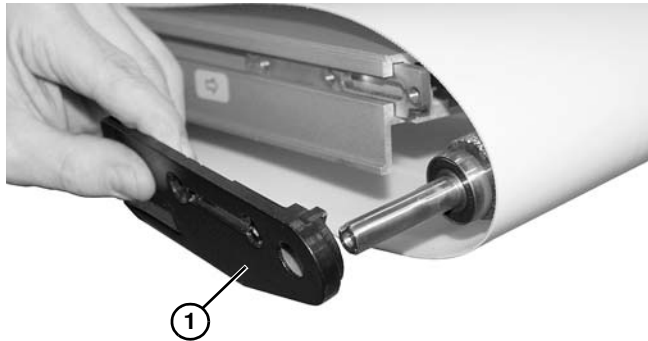

Figure 90
4. Remove the head plate (**Figure 90, item 1**) from the conveyor frame, holding spindle in place.